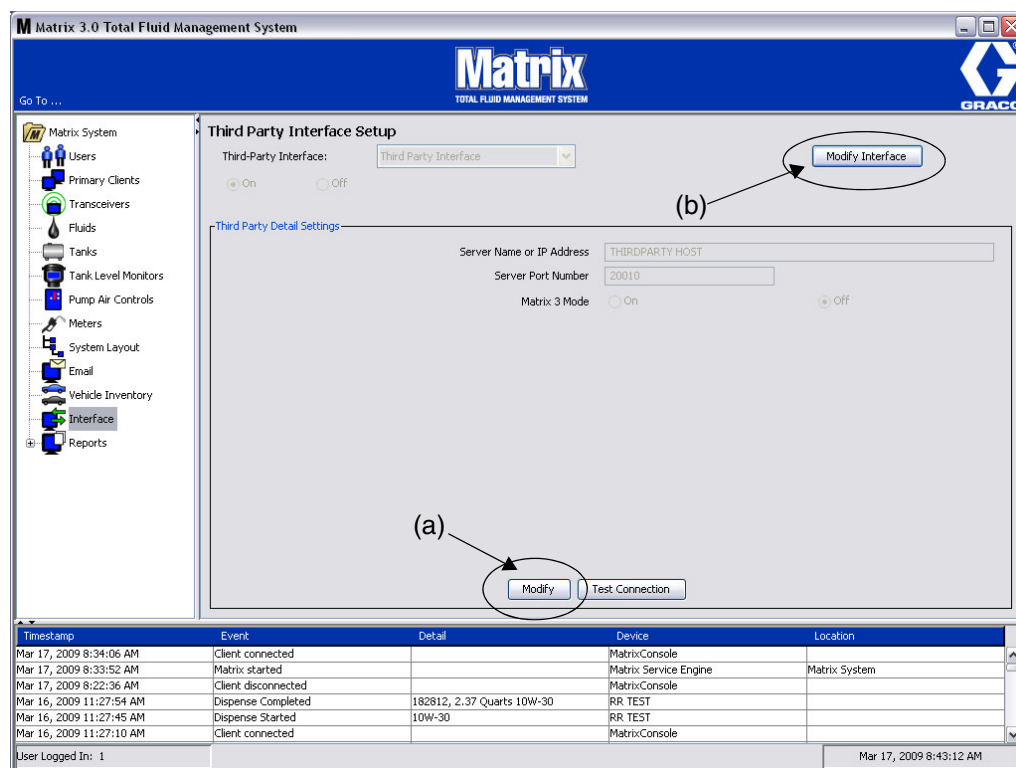
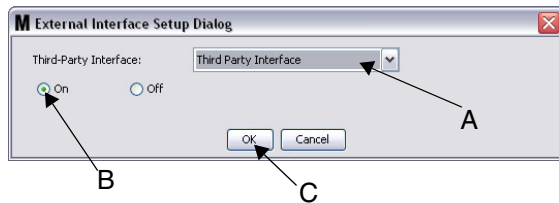

FIG. 164
FIG. 166 External Interface Setup Dialog
1. Click the **Modify** button (a) (FIG. 164, page 118) to display the External Interface Setup Dialog box.
1. Click the **Modify Interface** button (b) (FIG. 164). The External Interface Setup Dialog box shown in FIG. 166 displays. This dialog box is used to specify the Third Party Interface you are using.
2. From the drop down menu (A - FIG. 166) select Third Party Interface.
3. Click **“ON”** (B - FIG. 166). Third Party Interface enables Matrix to use the third party interface.
4. Click the **OK** button (C - FIG. 166) to close the screen and confirm your selection.